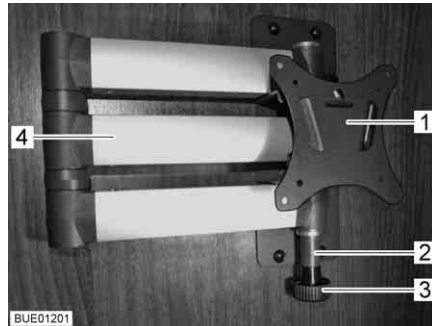

Fig. 68 Holder with jointed arm
- Pull the release knob (Fig. 68,3). The jointed arm (Fig. 68,4) is unlocked.
- Turn the flat screen back into the original position until the holder (Fig. 68,1) engages in the lock (Fig. 68,2).